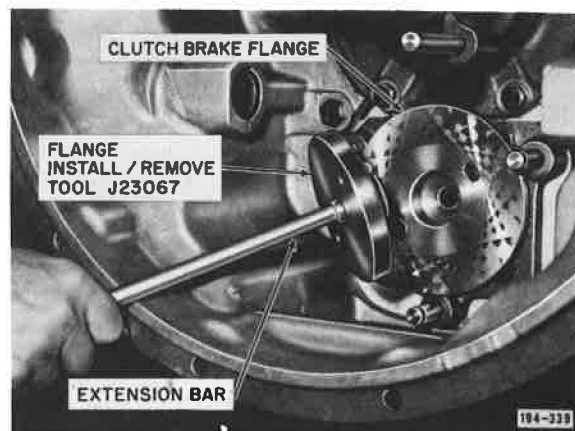

Figure 5-66. Installing Clutch Brake Flange
31. Using tool J23067, install clutch brake flange as shown in Figure 5-66, then install flange screw (left-hand thread).